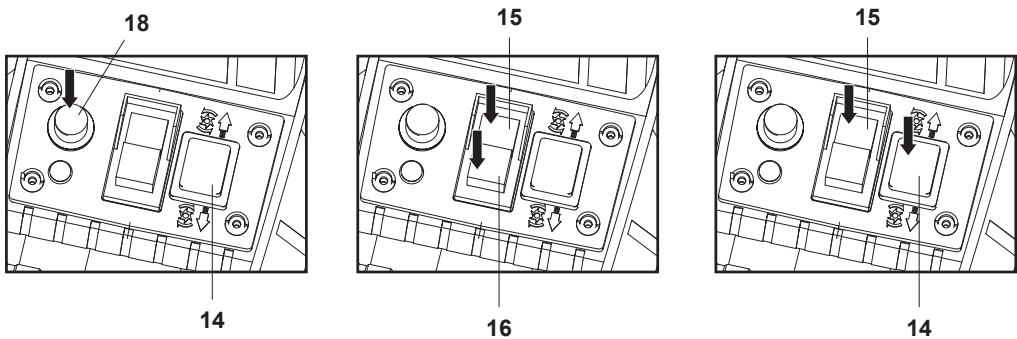

Fig. 7
- Wait at least one minute and then press the reset button (18) (Fig. 7, step 1);
- Set the forward/reverse switch (14) to reverse mode "1t" (Fig. 7, step 2);
- Hold down the ON switch "I" (15) to switch the machine on. Carefully pull out the jammed material from the feeding funnel (Fig. 7, step 3). When in reverse mode, the ON switch needs to held down. To stop the machine operating in reverse, release the ON switch.
- Release the ON switch "I" to switch the machine off (Fig. 7, step 4);
- Set the forward/reverse switch (14) to forward mode "4L" (Fig. 7, step 5);
- Press the ON switch "I" (15) to switch the machine on (Fig. 7, step 6);